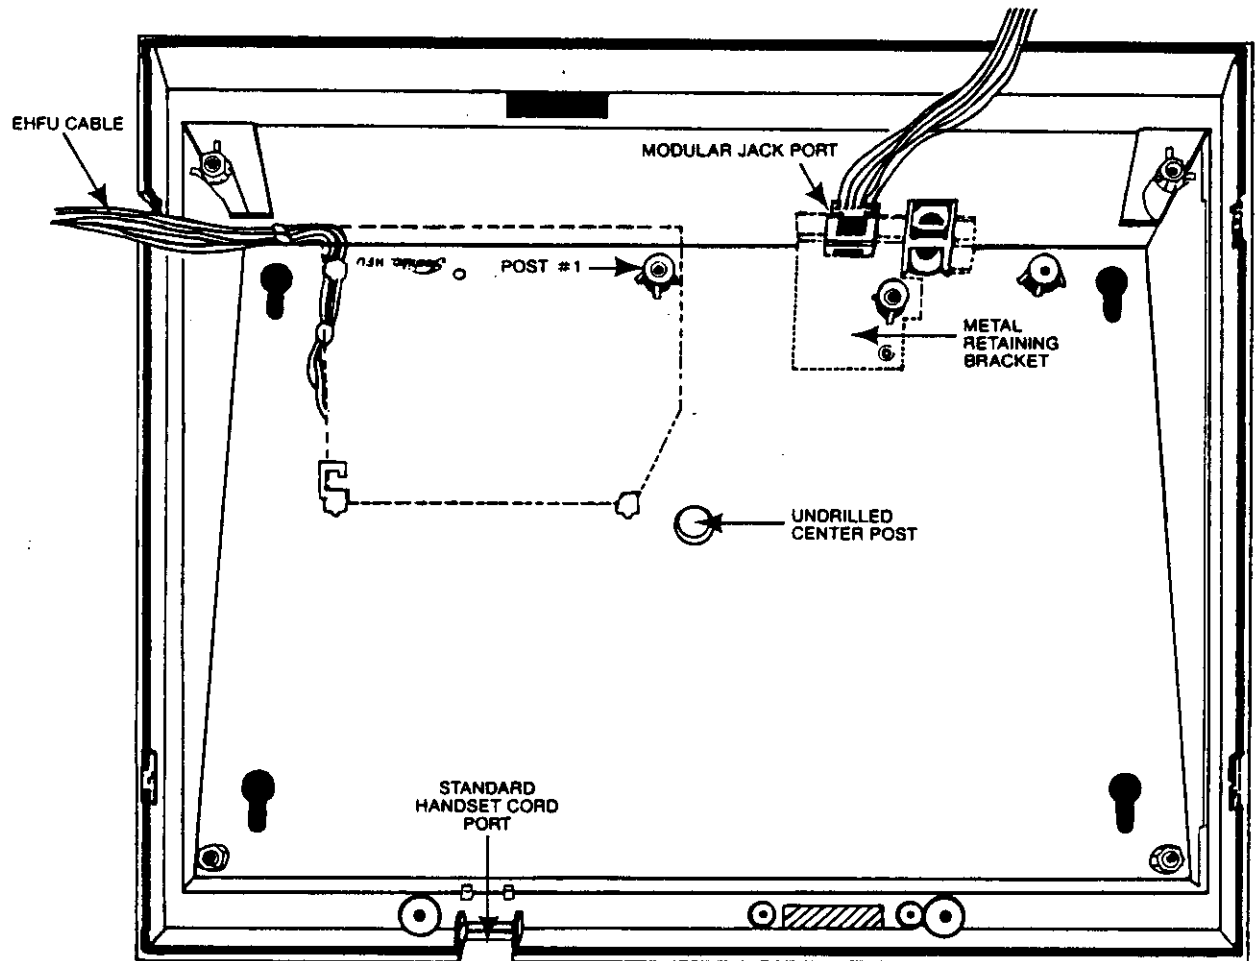

FIGURE 2—PLACEMENT OF EHFU PCB IN EKT D
2.2.1 Place the EHFU PCB in the EKT D case as shown in Figure 2. Using the self-tapping screw provided with the EHFU PCB, secure the PCB to support post #1. Drape the EHFU cable over the left edge of the EKT D case as shown in Figure 2. If either an EHIU or ESIU PCB is installed, drape its cable over the left edge of the EKT case.